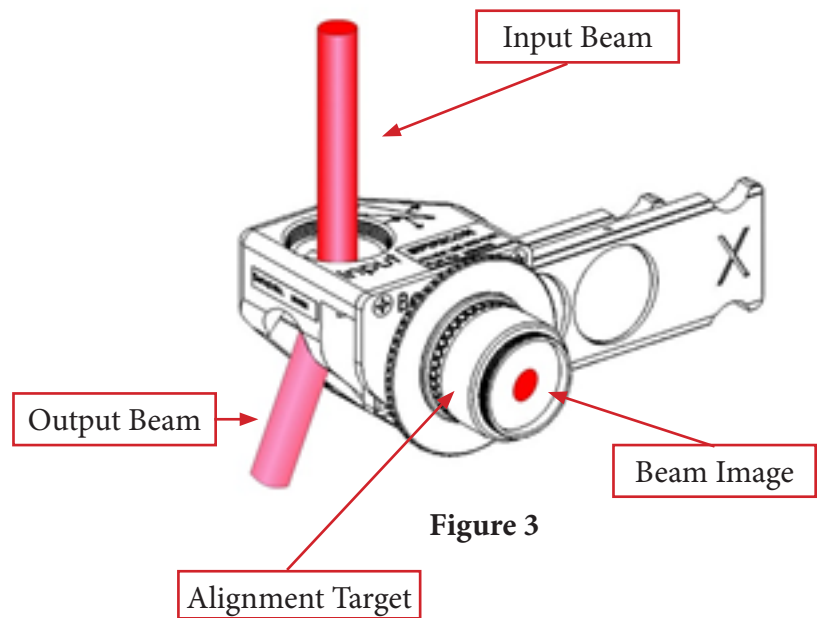

Figure 3
- Adjust the position of the LBP2-SAM-2 so that the beam will exit the center of the camera port. An alignment fixture consisting of a ground glass plate is provided to assist in aligning visible beams to the camera imager. This plate allows you to directly view a visible or UV beam (UV by secondary emissions). In the NIR, you will need to use an NIR viewer or a visible alignment beam. To use the alignment fixture. Screw the fixture onto the camera port and center the image of the beam in the plate. See Figure 3. When the LBP2-SAM-2 is aligned, remove the alignment fixture and attach the camera.